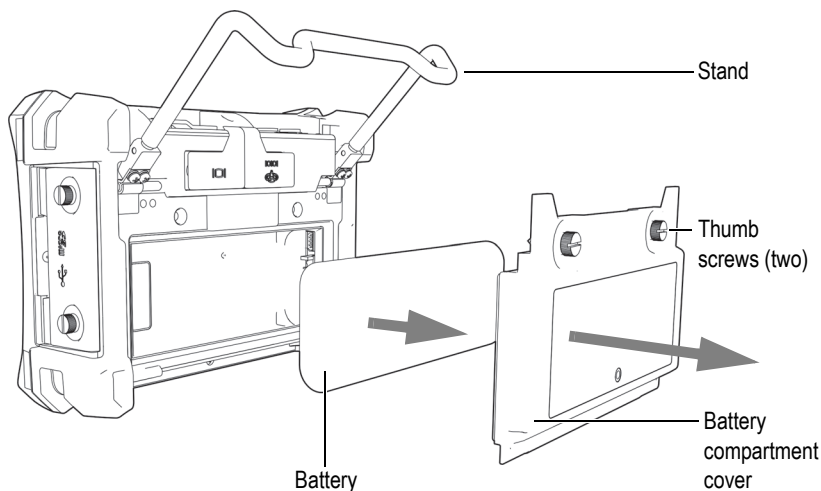

Figure 1-10 Removing the lithium-ion battery
2. At the back of the instrument, loosen the two thumb screws securing the battery compartment cover (see Figure 1-10 on page 28).
3. Remove the battery compartment cover (see Figure 1-10 on page 28).